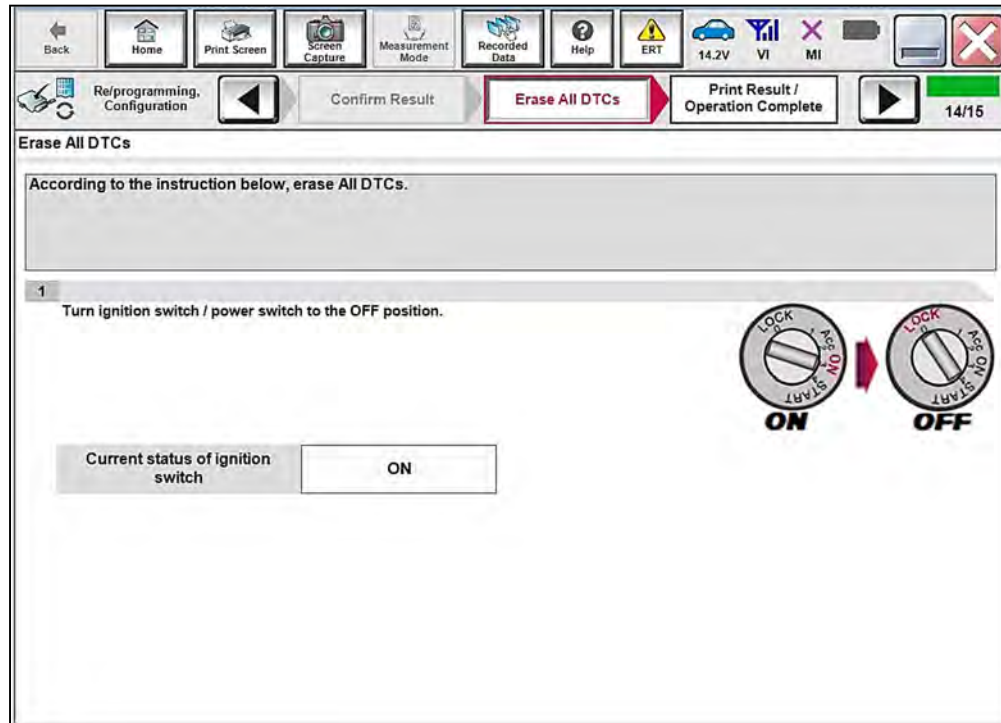
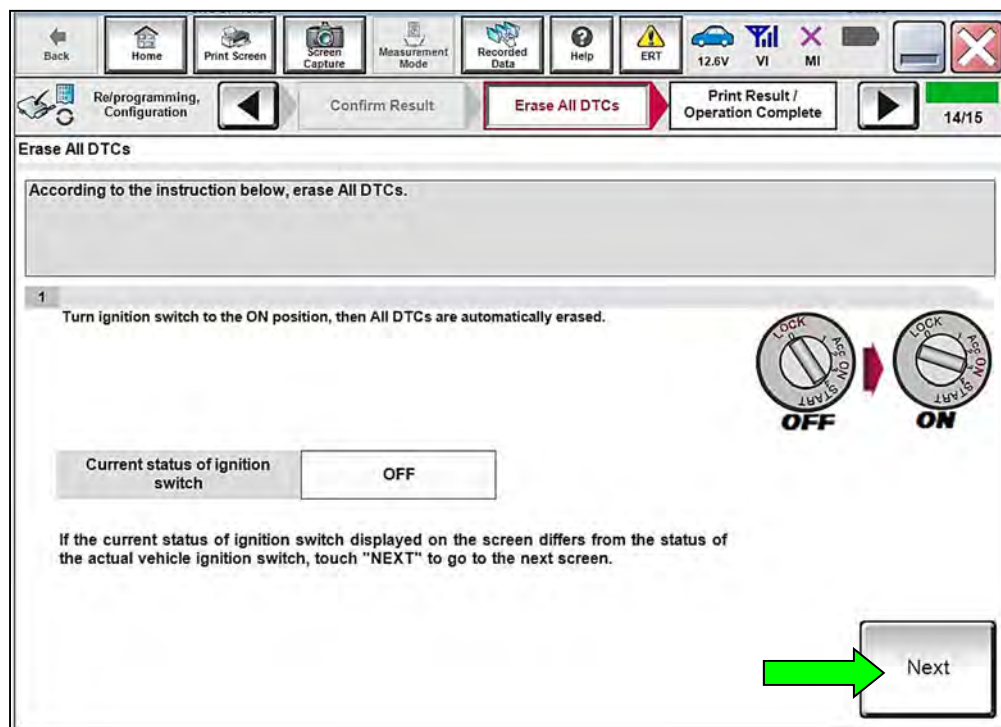

Figure 156
Figure 157
- a. Follow the on-screen instructions as shown in Figure 156 and Figure 157.